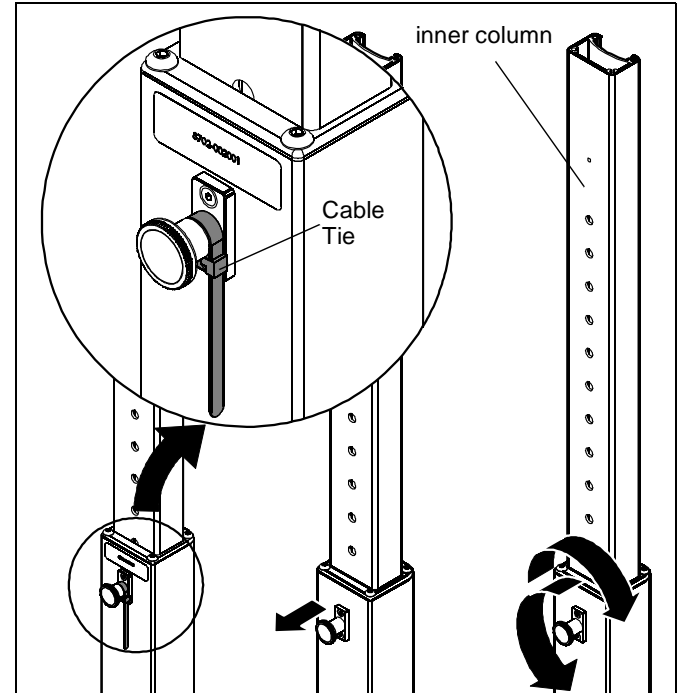

Figure 2
**IMPORTANT ! :** Press cable tie tab to loosen and remove cable tie from around knob post. (See Figure 2)
2. Lift up slightly on the inner column of center post and hold firmly toward top of post. (See Figure 2)
3. Pull out knob on the center post and turn 90° in either direction to disengage the locking mechanism. (See Figure 2)
4. Raise the inner column and turn the knob 90° in either direction to engage the knob and lock the column in place. (See Figure 2)